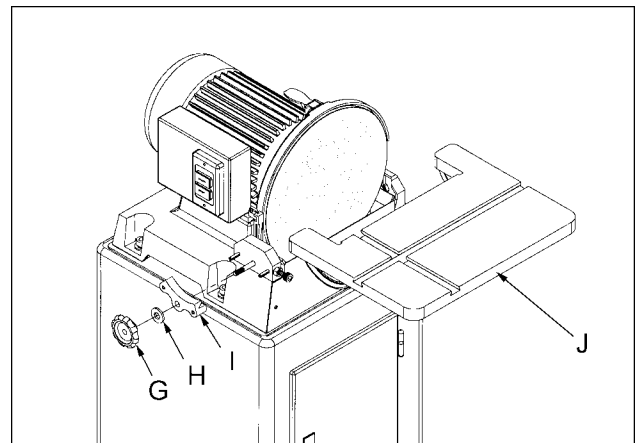

Fig. 2
1. Unscrew the knob (G, Fig. 2), remove the washer (H, Fig. 2) and the trunnion holder (I, Fig. 2). Repeat for opposite side.
2. Lift the table (J, Fig. 2) into position and set on top of the split pins and threaded shaft.